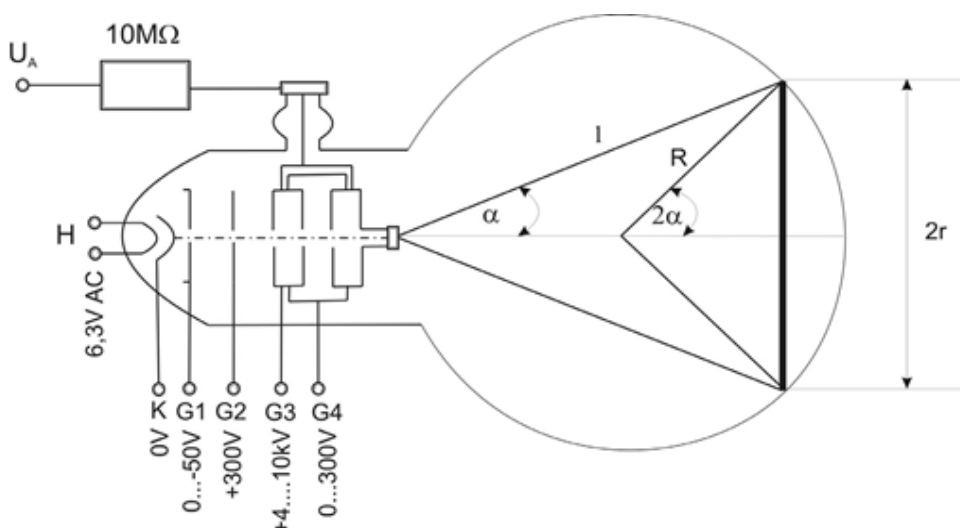

Figure 3: Set-up and power supply to the electron beam
A schematic diagram of the electron beam tube assembly is shown in Figures 3 and 4. The electron beam is generated by the electron gun. To avoid collisions between electrons and air molecules, the tube is evacuated. Electrons are ejected by thermionic emission from the incandescent heater H. They are accelerated through the electric field generated by the electrode system K, G1 -- G4. The Wehnelt cylinder electrode G1 focuses electrons into a narrow beam [1], which is subjected to preliminary acceleration through the grid G2. The electrons are then strongly accelerated through the highly positive potential of the anode G3. The resulting beam is directed at a copper mesh with graphite powder on it, and thereafter into the main body of the electron beam tube. The diffracted electrons traverse the electron beam tube, striking a phosphorescent coating on the front of the electron beam tube. A phosphorescent material is one that emits light in response to incident high energy electrons.
- Familiarise yourself with the Experimental set-up (Figure 1) and the circuit diagram of the electron diffraction tube and power supply (Figures 3 and 4).